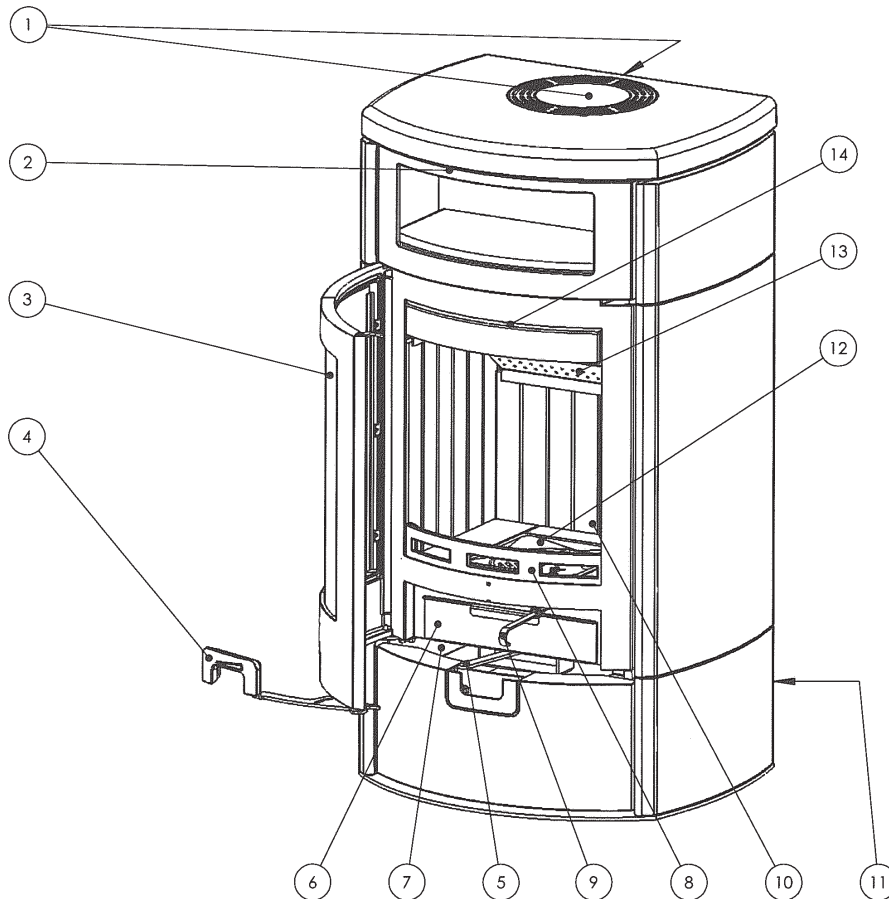

Figure 1: Operation
6.2. GETTING THE FIRE GOING (Figure 1)